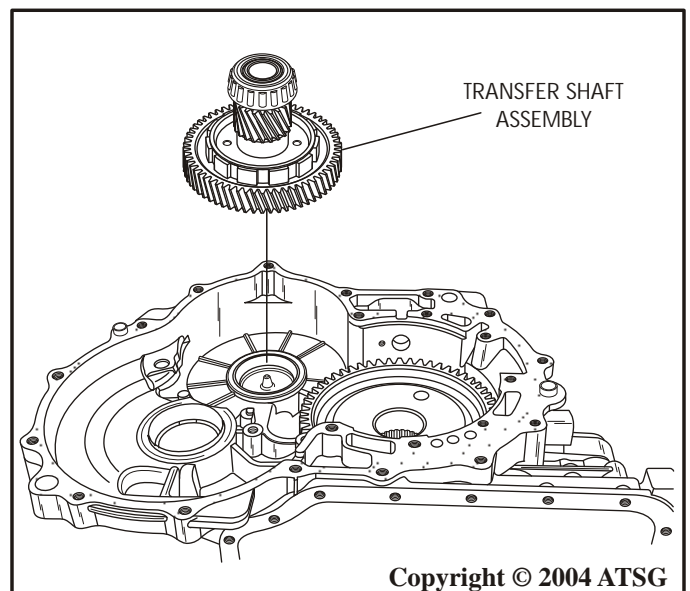

Figure 52
55. Remove the transfer shaft assembly, as shown in Figure 52.